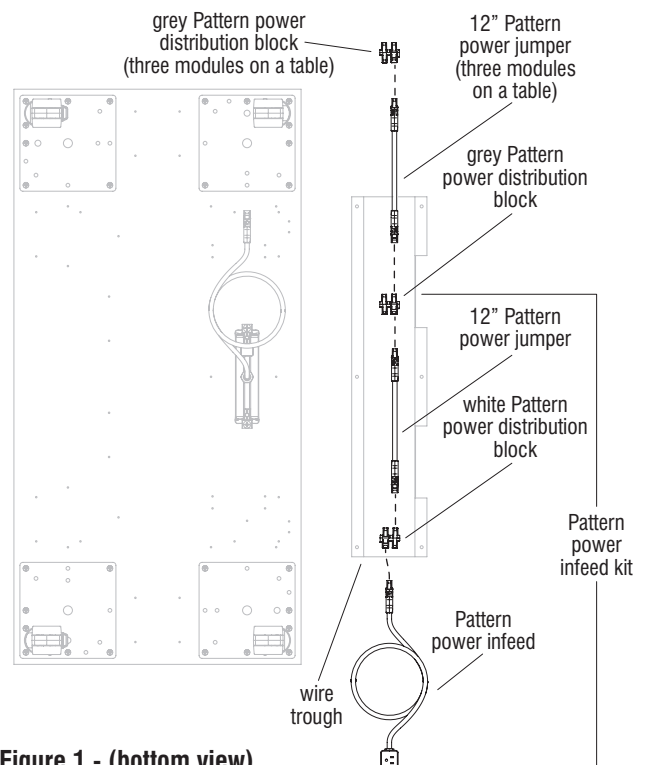

Figure 1 - (bottom view)
6. Steps 1 through 5 assemble a standard Pattern power infeed kit (Figure 1). If the table being assembled has the power infeed installed and it will receive three power modules, an additional 12" Pattern power jumper and grey Pattern power distribution block on the end will be required after the first grey distribution block (Figure 1).